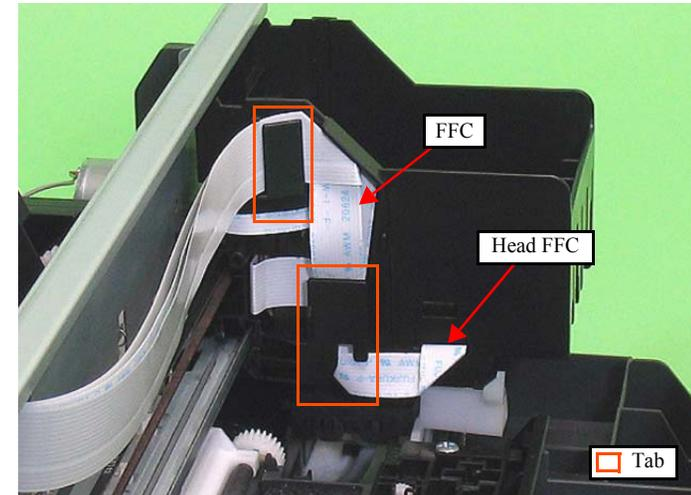
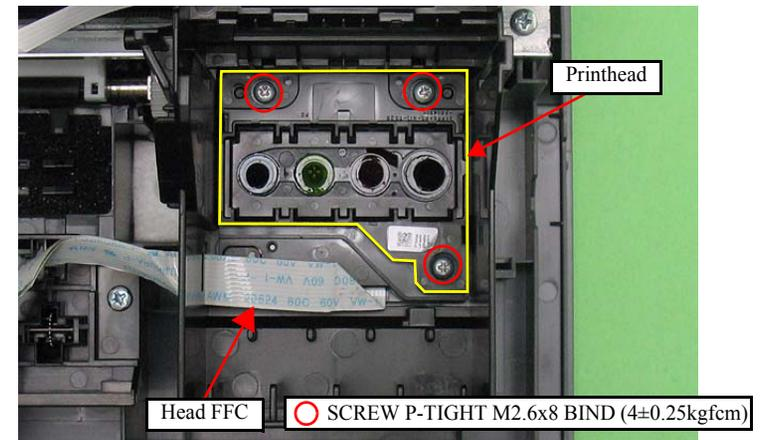

Figure 4-28. Removing the Printhead (2)
Figure 4-32. Removing the Printhead (6)
- When installing the FFC, route it through objects as shown in Fig.4-28 and Fig.4-32.